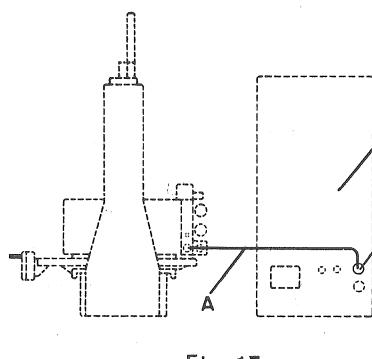

Fig 17
10. Connect the control cable (A) of the machine to its socket (852) on the generator (800) (fig. 17).